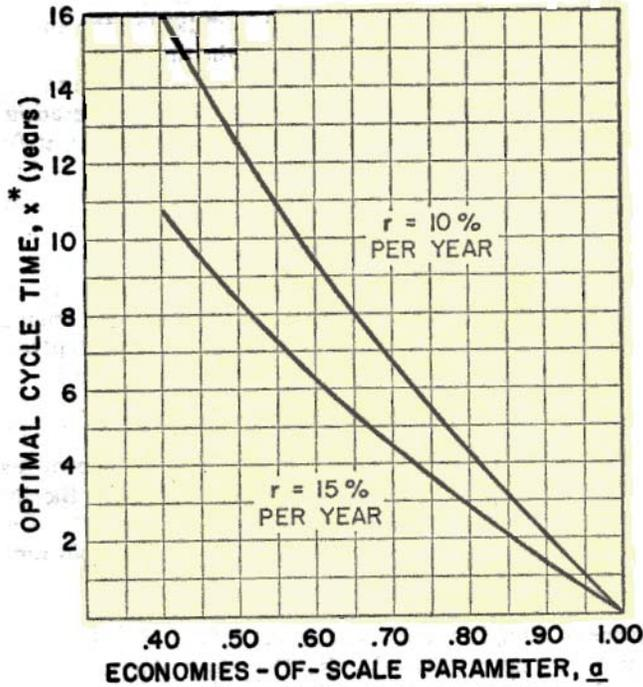

Figure 2.4.—Cross-Plot for Optimal Cycle Time
2. What is the effect of the economies of scale parameter  $a$  on the optimal timing? Compare your results with figure 2.4, Manne chapter 2 – found in Appendix 1 at the end of this document.